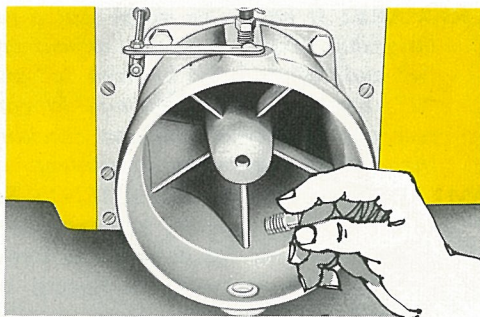

Figure 33
** Some turbines are equipped with (2) plugs instead of one.*
- b) Lift the rear end of the Sea-Doo and remove the red plug located inside the turbine (at the end of the stator) and check the oil. The rear bearing section should be half filled. (See fig. 33).